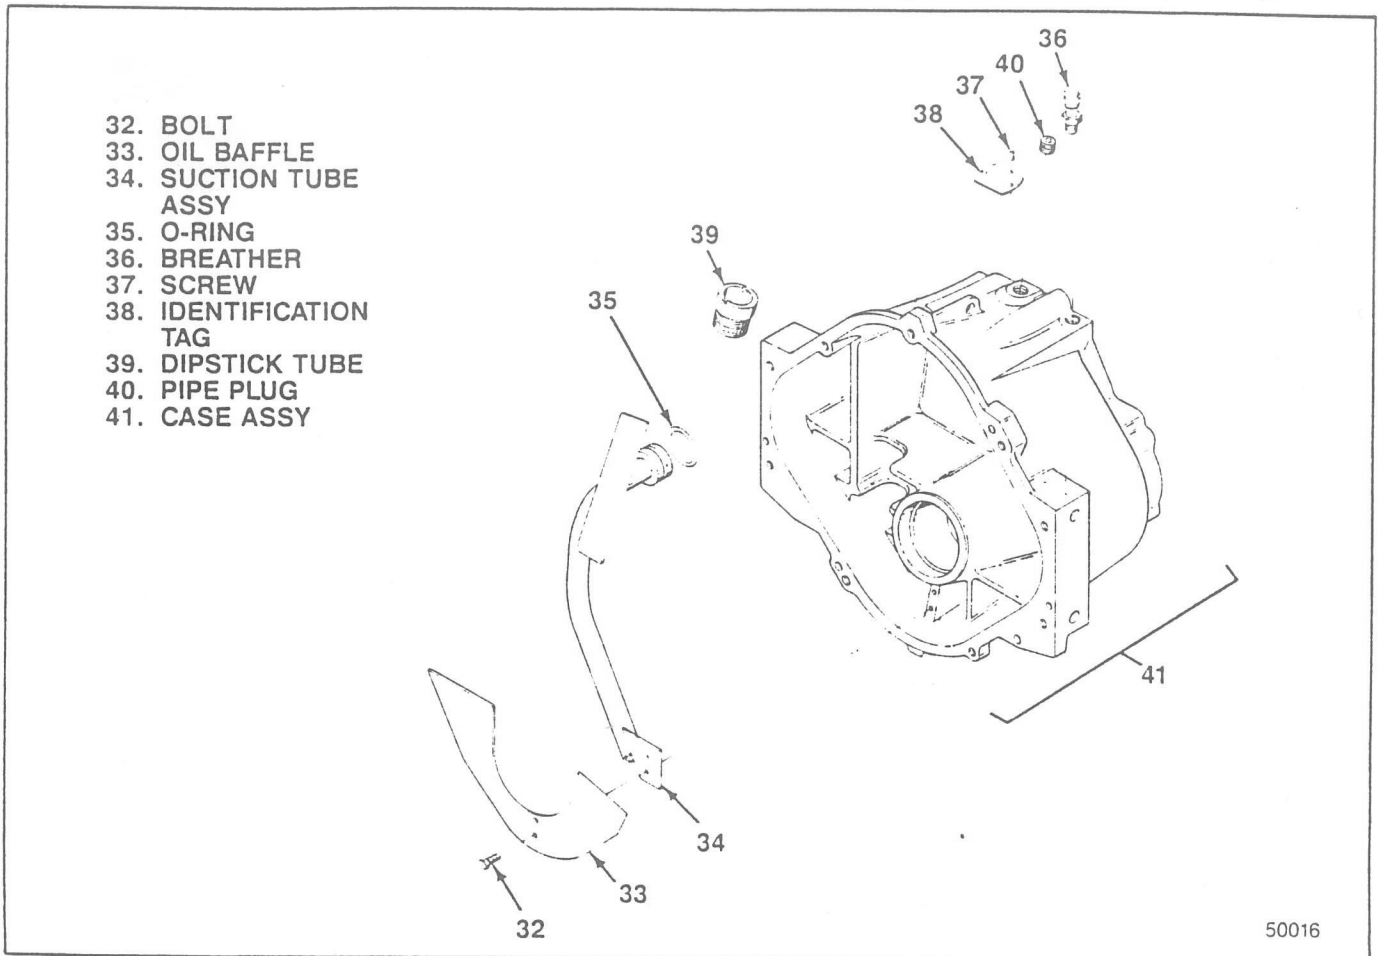

Figure 5-12. Case Components
**5-18. CASE COMPONENTS ASSEMBLY.** Assemble parts as follows (see figure 5-12):